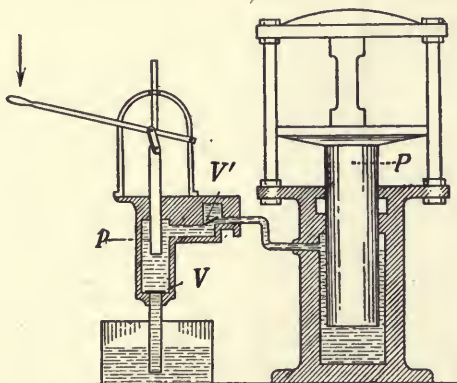

FIG. 20.—Cross-section of a hydraulic press.
41. Hydraulic Press.—An important application of Pascal's principle is the *hydraulic press*. See Fig. 20. It is used for many purposes where great force is required, as in pressing paper or cloth, extracting oil from seeds, lifting heavy objects, etc. Many high school pupils have been seated in a *hydraulic chair* used by a dentist or barber. This chair is a modified hydraulic press.
The hydraulic press contains two movable pistons, P and p (see Fig. 20). The larger of these, P , has a cross-sectional area that may be 100 or 1000 times that of the smaller. The smaller one is moved up and down by a lever; on each upstroke, liquid is drawn in from a reservoir, while each down-stroke forces some of the liquid into the space about the large piston. Valves at V and V' prevent the return of the liquid. If the area of P is 1,000 times